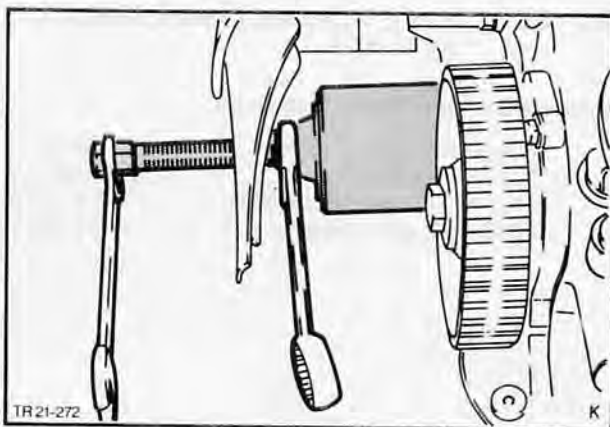

Fig. 207. Fit oil seal, using Special Tool 21-009-A
4. Fit new oil seal (with sealing lip slightly oiled), using Special Tool 21-009-A, Fig. 207. Fit crankshaft toothed belt pulley (with chamfered side inwards) and thrust washer and V-belt pulley.